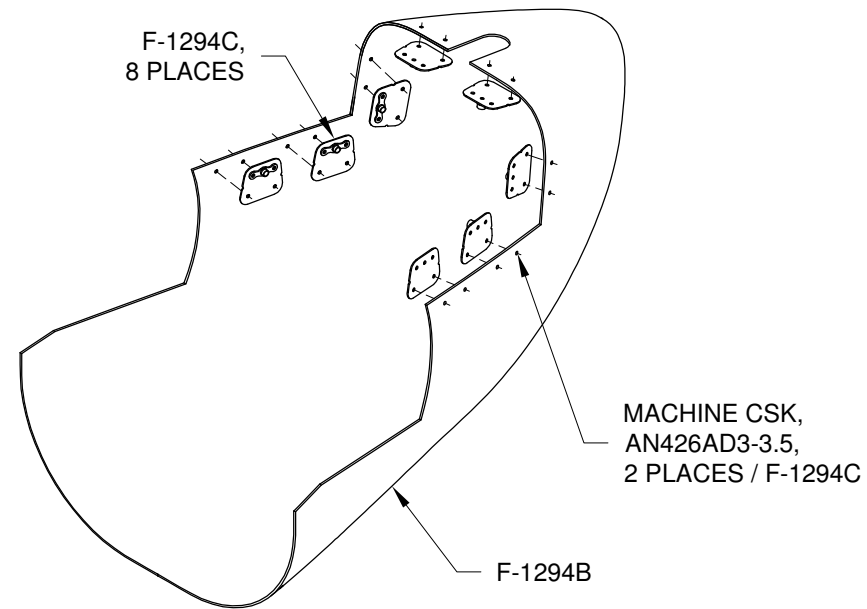

FIGURE 2:
Step 4: Rivet the F-1294C Tabs to the F-1294B Lower Tailcone Fairing using the rivets called out in Figure 2.